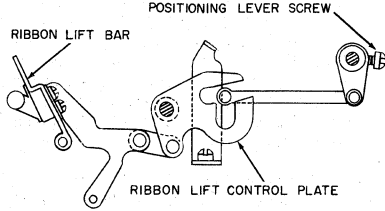

Figure 71
3. With the manual positioning stud in stencil position locate the positioning lever over the vertical slot in the ribbon lift control plate (Figure 71). Tighten the positioning lever screw for a maximum of .005" end play of the lateral shaft (Figure 70B).